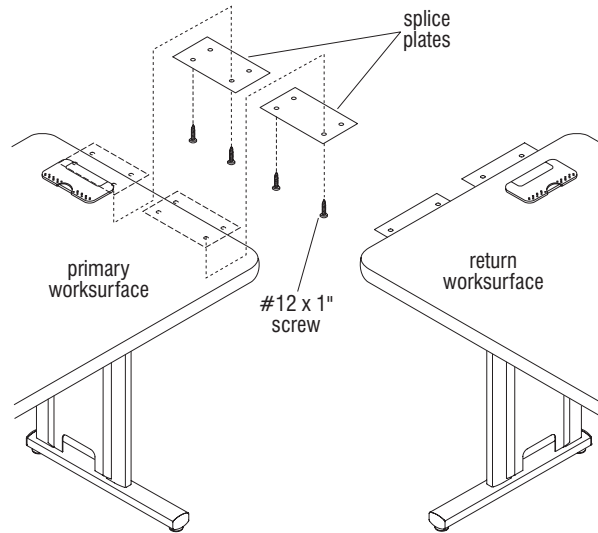

Figure 1
1. Attach two-splice plates to the primary worksurface with two #12 x 1" screws per splice plate. Repeat the procedure for splice plates to the return surface (Figure 1).